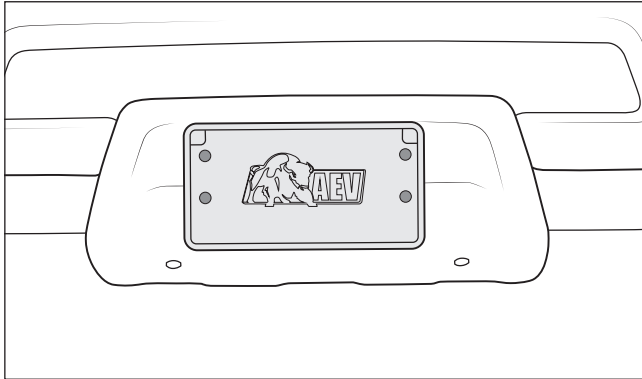

Figure 1
- A. Remove the 4 M4 torx screws attaching the License Plate Bracket (fig. 1).